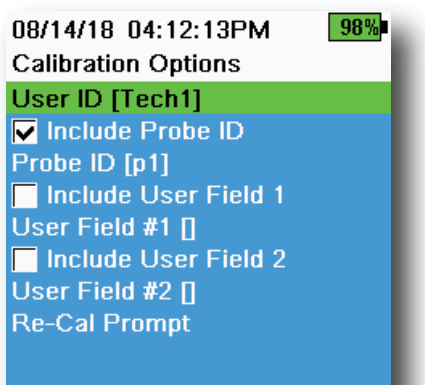

Figure 12 Calibration Options
- Other user-specific identification (User Field #1 and #2) (Figure 12)